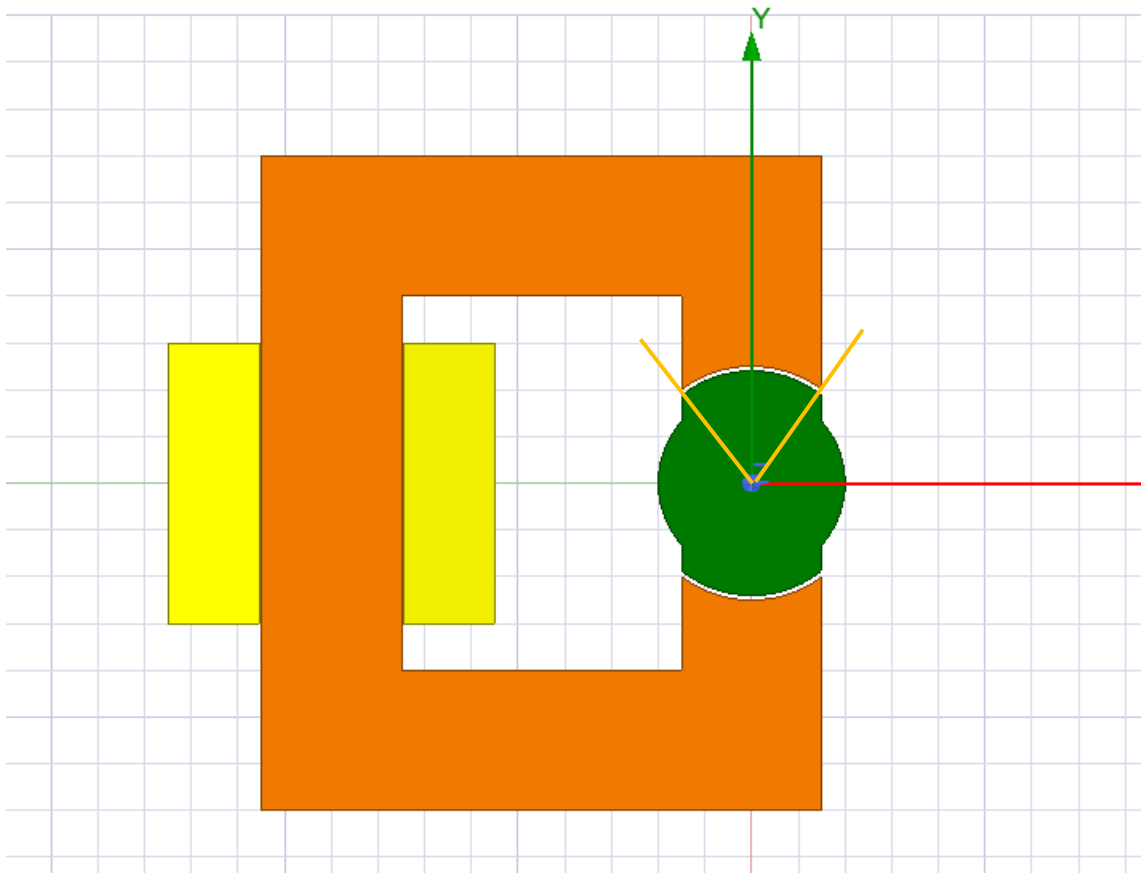

Figure 1. 2D Model
- 1) Between 2 yellow line angle is 77 degree. At figure 1 position is assumed as initial.